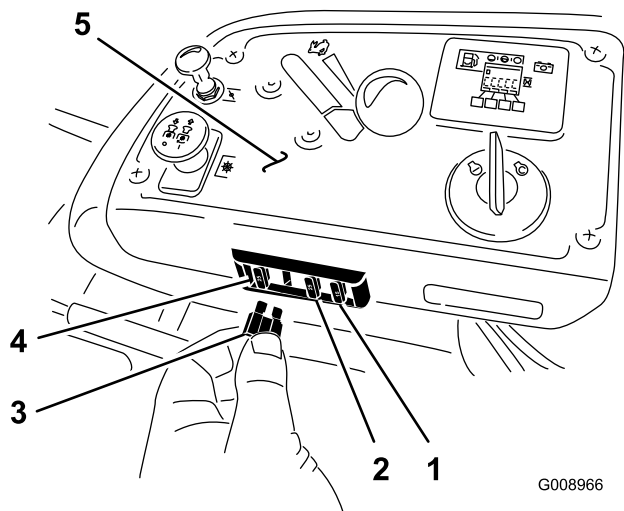

Figure 55
1. The fuses are located on right hand console next to the seat (Figure 55).
3. Install a new fuse (Figure 55).